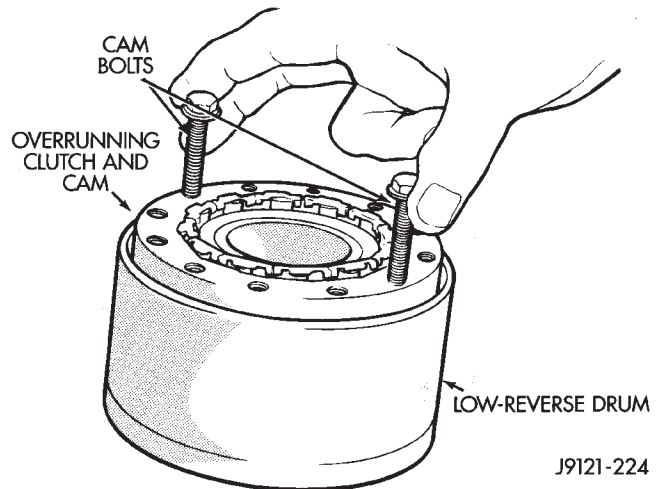

Fig. 111 Removing Overrunning Clutch From Low-Reverse Drum
(1) If the clutch assembly came out with the low-reverse drum, thread two clutch cam bolts into the cam. Then lift the cam out of the drum with the bolts (Fig. 111). Rotate the cam back and forth to ease removal if necessary.
(2) Remove the clutch roller and spring assembly from the overrunning clutch race.